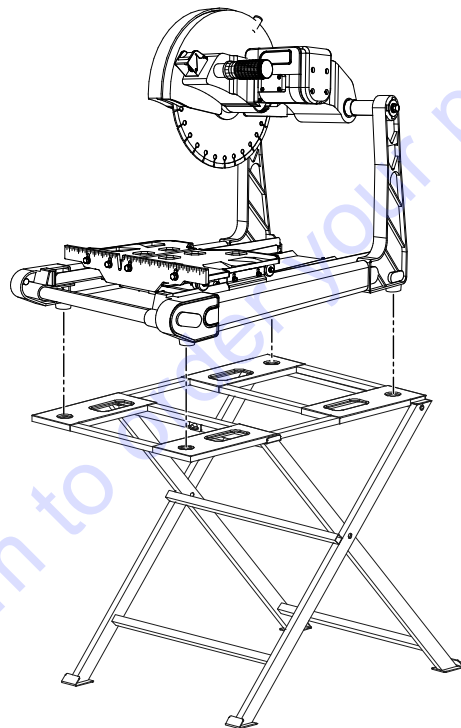

Figure 13. Support Stand Assembly
- Hold the support stand upright, unfold the legs, and place the tabletop on top of the legs (Figure 13).
- Place the saw on the support stand (Figure 13). Make sure the saw's rubber support feet are seated securely in the corresponding holes in the stand.